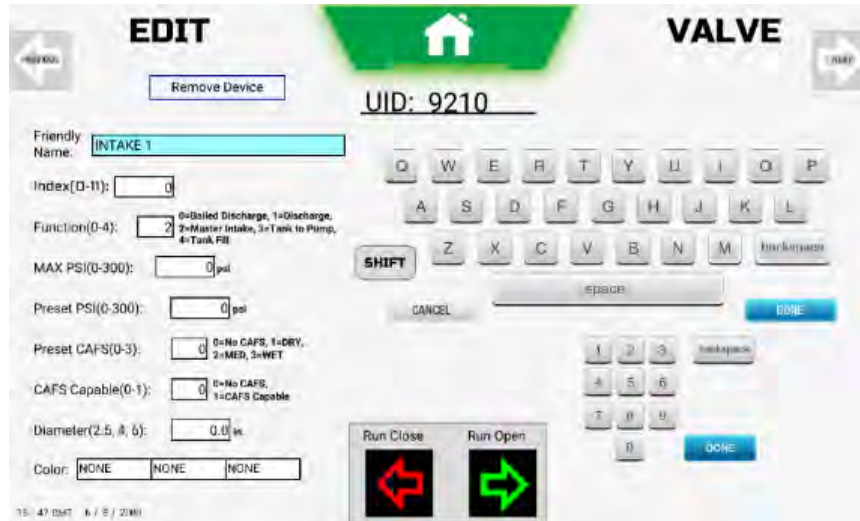

Figure 160. Edit Valve Screen – Keyboard, Number Pad, And DONE Buttons
After selecting the desired valve, touch the Friendly Name text box (see Figure 86). Keyboard, number pad, and DONE buttons appear (Figure 160).
- F. Touch Friendly Name: text box. Keyboard, number pad, and DONE buttons appear (See Figure 160).